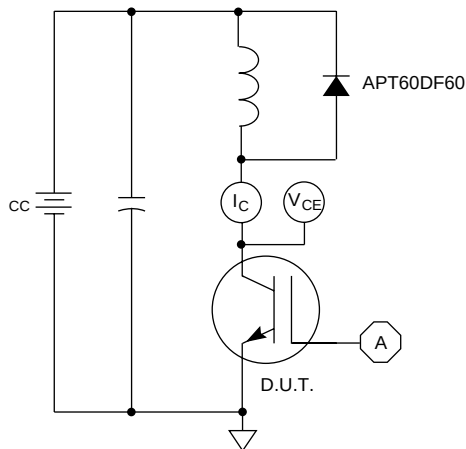

Figure 21, Inductive Switching Test Circuit
- ⑤ E_{on2} is the clamped inductive turn-on energy that includes a commutating diode reverse recovery current in the IGBT turn-on switching loss. A Combi device is used for the clamping diode as shown in the E_{on2} test circuit. (See Figures 21, 22.)
- ⑥ E_{off} is the clamped inductive turn-off energy measured in accordance with JEDEC standard JESD24-1. (See Figures 21, 23.)
- ⑦ Countinous current limited by package lead temperature.